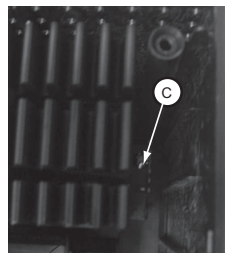

Figure 3
- 1 screw "C" as shown in figure 3.